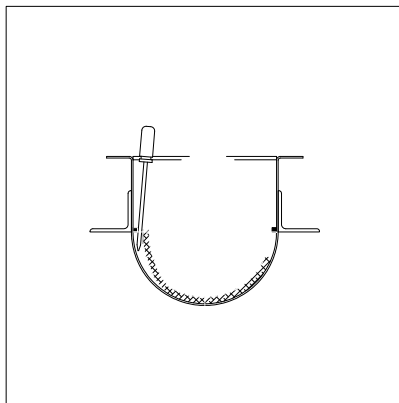

Figure 2.5.2c - Levering Out the Liner
4. Insert a heavy duty screw driver or lever down between the trough and the plastic liner so that it releases from its steel block retainers (see fig 2.5.2c).